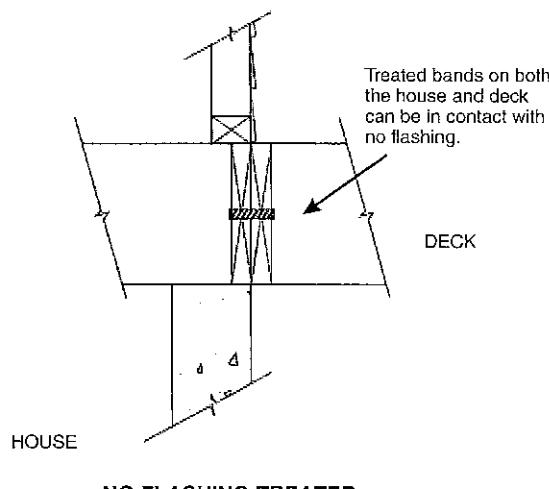

FIGURE AM103
**AM103.1 Flashing.** When attached to a structure, the structure to which attached shall have a treated wood band for the length of the deck, or corrosion-resistant flashing shall be used to prevent moisture from coming in contact with the untreated framing of the structure. Aluminum flashing shall not be used in conjunction with deck construction. The deck band and the structure band shall be constructed in contact with each other except on brick veneer structures and where plywood sheathing is required and properly flashed. Siding shall not be installed between the structure and the deck band. If attached to a brick structure, neither the flashing nor a treated band for brick structure is required. In addition, the treated deckband shall be constructed in contact with the brick veneer. Flashing shall be installed per Figure AM103.